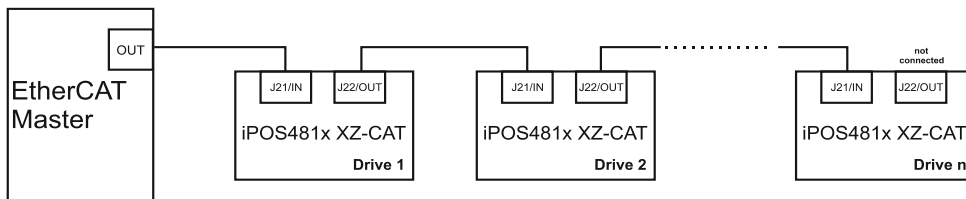

Figure 34. EtherCAT network linear topology
- Linear, when the J7 / OUT port of the last drive in the chain remains not connected. Master is connected to J6 / IN port of the first drive; J7 / OUT of the first drive is connected to J6 / IN of the following drive; J7 / OUT of the last drive remains unconnected.See **Figure 34. EtherCAT network linear topology** for a visual representation of the linear topology.